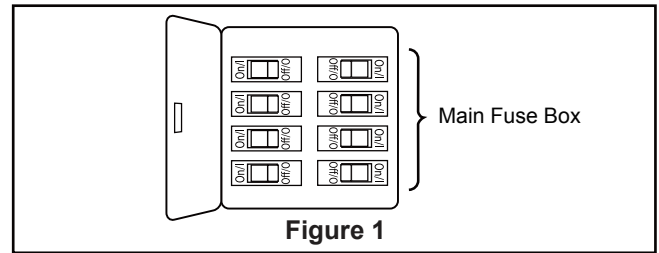
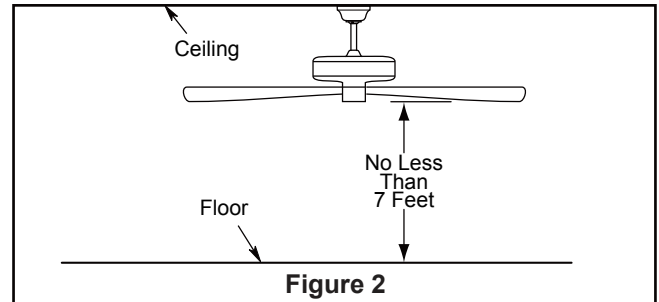
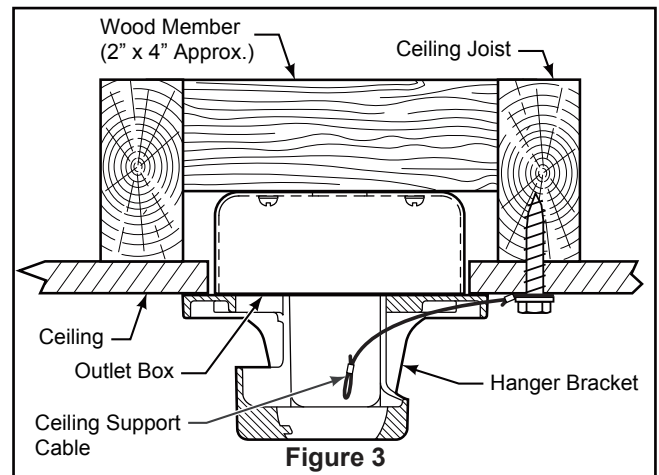

Figure 1
Figure 2
Figure 3
Your new ceiling fan will require a grounded electrical supply line of 120 volts AC, 60 HZ, 15 Amp Circuit. Electrical code requires use of a fan-rated outlet box to support the extra weight and motion associated with a ceiling fan. A fan-rated box will be labeled as such and typically supports up to a 70lb ceiling fan. Fan-Rated Outlet Boxes vary in ratings and design. Ensure the ratings of your ceiling fan outlet box meet the requirements for the ceiling fan being installed. Figure 1, Figure 2 and Figure 3 depicts different structural configurations that may be used for mounting the outlet box.
### Low profile box (Figure 1)
### Deep box (Figure 2)
### Deep box with brace (Figure 3)
1. Remove the two set screws and locking nuts in the downrod support of the motor assembly and retain for reinstallation in Step 4 of Page 8. Disassemble the upper housing cover by removing the six screws at the top of the motor assembly and retain for Step 3. Carefully twist and lift off the cover. (Figure 1)
2. Slide blades through slots in motor housing and attach to the motor hub using the #8-32 serrated head screws and flat washers. Make sure the screws securing the blades to the motor hub are tight and are properly seated. (Figure 2)
3. Reassemble the upper housing cover to the motor assembly using the previously removed screws. (Figure 3)
1. Remove the hanger ball portion from the downrod/hanger ball assembly by loosening the set screw in the hanger ball until the ball falls freely down the downrod. Remove the pin from the downrod, then remove the hanger ball. Retain the pin and hanger ball for reinstallation in Step 6. (Figure 1)
2. Remove the hairpin clip and clevis pin from the bottom of the downrod. Retain the pin and clip for reinstallation in Step 4. (Figure 2)
3. Route the brown, blue, red, gray and yellow wires and safety cable through the downrod. (Figure 3)
To avoid possible fire or shock, be sure electricity is turned off at the main fuse box before hanging. (Figure 1)
The fan must be hung with at least 7' of clearance from floor to blades. (Figure 2)
1. Securely attach the hanger bracket to the outlet box using the outlet box screws and washers supplied with the outlet box. (Figure 3)
2. Drill a 1/4" pilot hole into the building structure to prevent splitting or cracking with installation of the lag bolt. Using the 3/8" x 2" lag bolt and flat washer, attach safety cable to ceiling joist or wood structural member. The lag bolt will pass through the flat washer, safety cable loop, and into the building structure. (Figure 3) **NOTE:** Ceiling support cable cannot be secured to outlet box only, it must be directly secured to ceiling joist or structural member using the 3/8" x 2" lag bolt and flat washer. (Figure 3)
- 1. To set the code on receiver unit, slide dip switches to the same positions as set on the remote control. (Figure 1)
To avoid possible electrical shock, be sure electricity is turned off at the main fuse box before wiring. (Figure 2)
- 2. Slide the receiver into the hanger bracket before wiring as shown in figure 3.
1. Assemble canopy by rotating key slot in canopy over shoulder screw in hanger bracket, taking care not to pinch the wires. Tighten shoulder screw. Fully assemble and tighten second shoulder screw that was previously removed. (Figure 1)
2. Securely attach and tighten the canopy screw cover over the shoulder screws in the hanger bracket utilizing the key slot twist-lock feature. (Figure 2)
1. Remove one of the three screws in the adaptor plate at the bottom of the motor assembly. Slightly loosen the remaining two screws. Assemble the light plate assembly to the adaptor plate of the motor assembly using the two key slots in the light plate assembly. Replace the third screw and secure all three screws. (Figure 1)
- **2.** Remove one of the three screws in the light plate assembly and retain the screw for later. Slightly loosen the remaining two screws. (Figure 2)
- **3.** If you want to install the light kit, skip this step. Assemble the light kit wire cover to the light plate assembly using the two key slots. Replace the removed screw in Step 2 and secure all three screws. (Figure 3)
- 1. **IMPORTANT:** Using a full range dimmer switch (not included) to control fan speed will damage the fan. To reduce the risk of fire or electrical shock, do not use a full range dimmer switch to control the fan speed. (Figure 1)
- 2. Restore electrical power to the outlet box by turning the electricity on at the main fuse box. (Figure 2)
- 3. Remove the battery cover from remote control by screwdriver and retain the screw for later. (Figure 3)